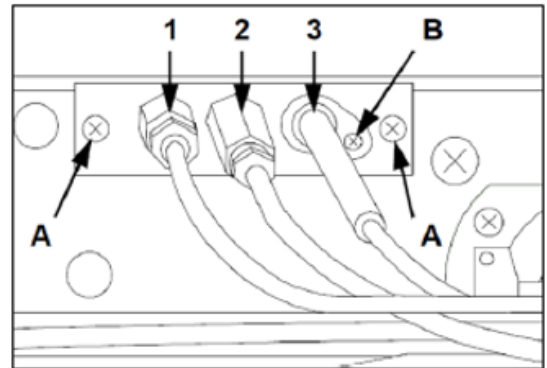

FIG.18
- Unscrew the thermocouple with an appropriate spanner (FIG.18-Ref.1);
- Unscrew the 2 supporting screws (FIG.18-Ref.A) fix the new pilot;
- Fix the new pilot following the above procedure (FIG.18-Ref.2) .
- Remove the plug unscrewing the screw (FIG:18-Ref.B);
- Fix the new plug (FIG.18-Ref.3) following the above procedure.